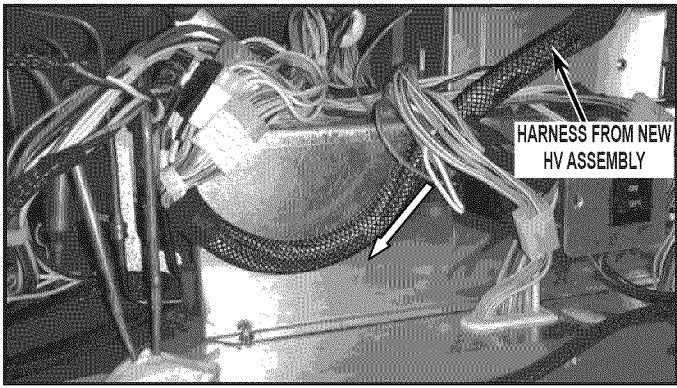

FIGURE 12
14. Route the harness from the new HV assembly behind the wiring as shown in *Figure 12*.